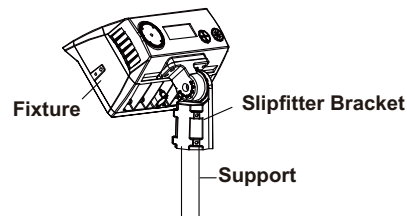

figure 7
Step 2: Loosen the fixing bolts and adjusting bolts,align the fixture to required angle.Tighten adjusting bolts and fixing bolts after the angle is confirmed.(Figure 7)